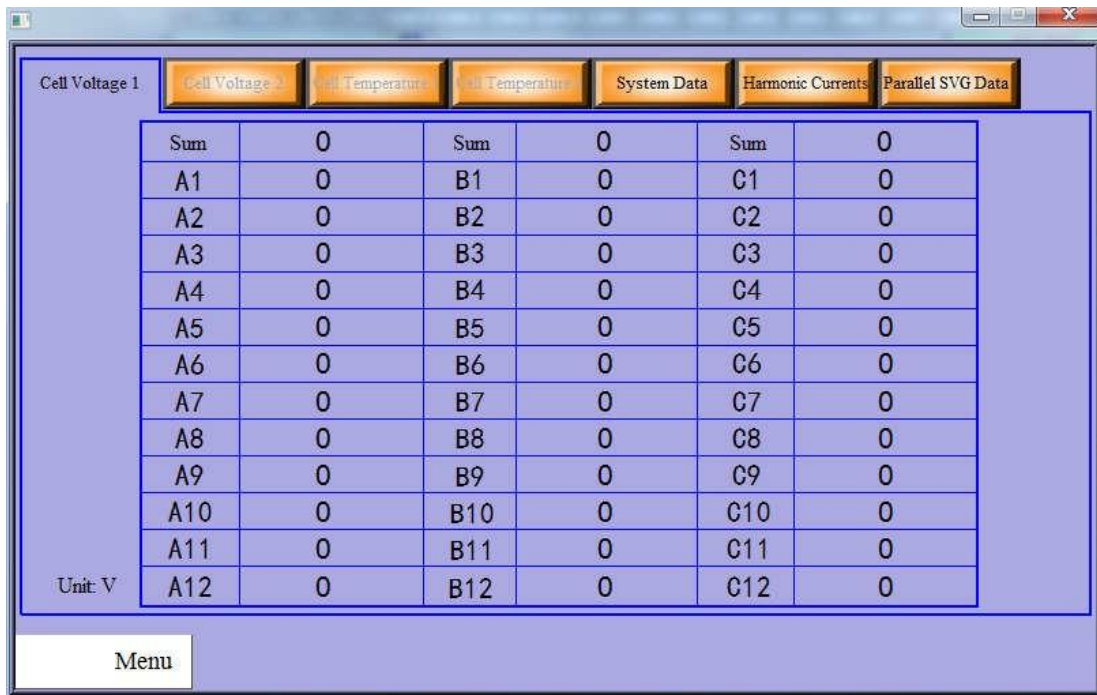

图 5.4 单元电压显示界面/figure 5.4 Cell voltages Interface
1) 模拟量查询：查询单元电压、温度（需定制）、谐波电流、装置无功、并机数据等模拟量。图 5.4 为单元电压显示界面，图 5.5 为单元温度显示界面。
Analog: The information of cell voltages, cell temperatures (to be customized), harmonic currents, device reactive power and other information can be seen in analog interface. Figure 5.4 is the interface of cell voltages. Figure 5.5 is the interface of cell temperatures.